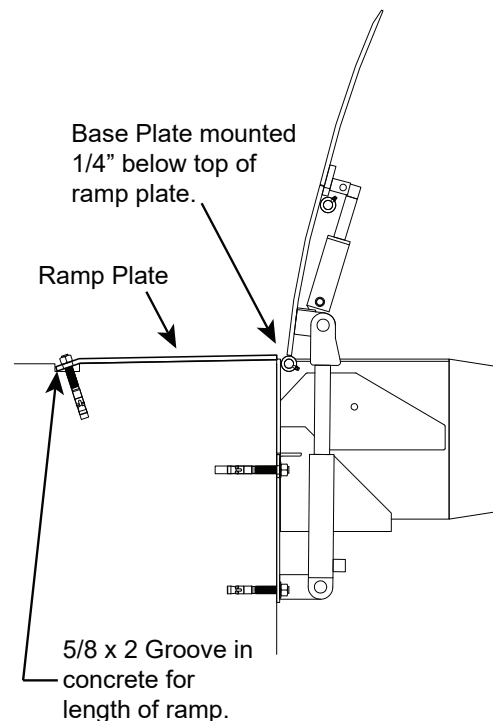

Figure 8
3. At the points marked to each side of center, measure and mark points 7-3/4" below dock level (for 1/4" ramp plate) to locate position for bottom of base plate. This position will place the top of the base plate flush with the dock floor. The base plate should be 1/4" below the top of the ramp plate. See **Figure 8**.
13. Break tack welds holding ramp in place, slide ramp plate back into position with the top of the ramp plate 1/4" higher than top of base plate. See **Figure 8**. Tack weld each end and center of ramp plate to base plate.
1. Top of base plate to be 1/4" below top of ramp plate to provide a smooth transition. Bumper is to be flush with top of ramp plate. See Figure 8.